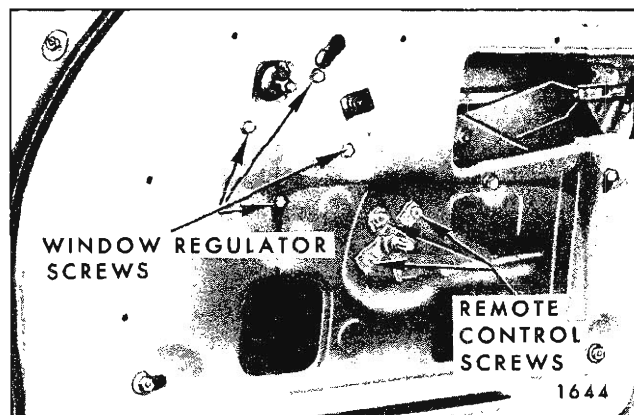

Fig. 5D19—Front Door Hardware
2. Remove regulator attaching screws (Fig. 5D19) and remove regulator through access hole.